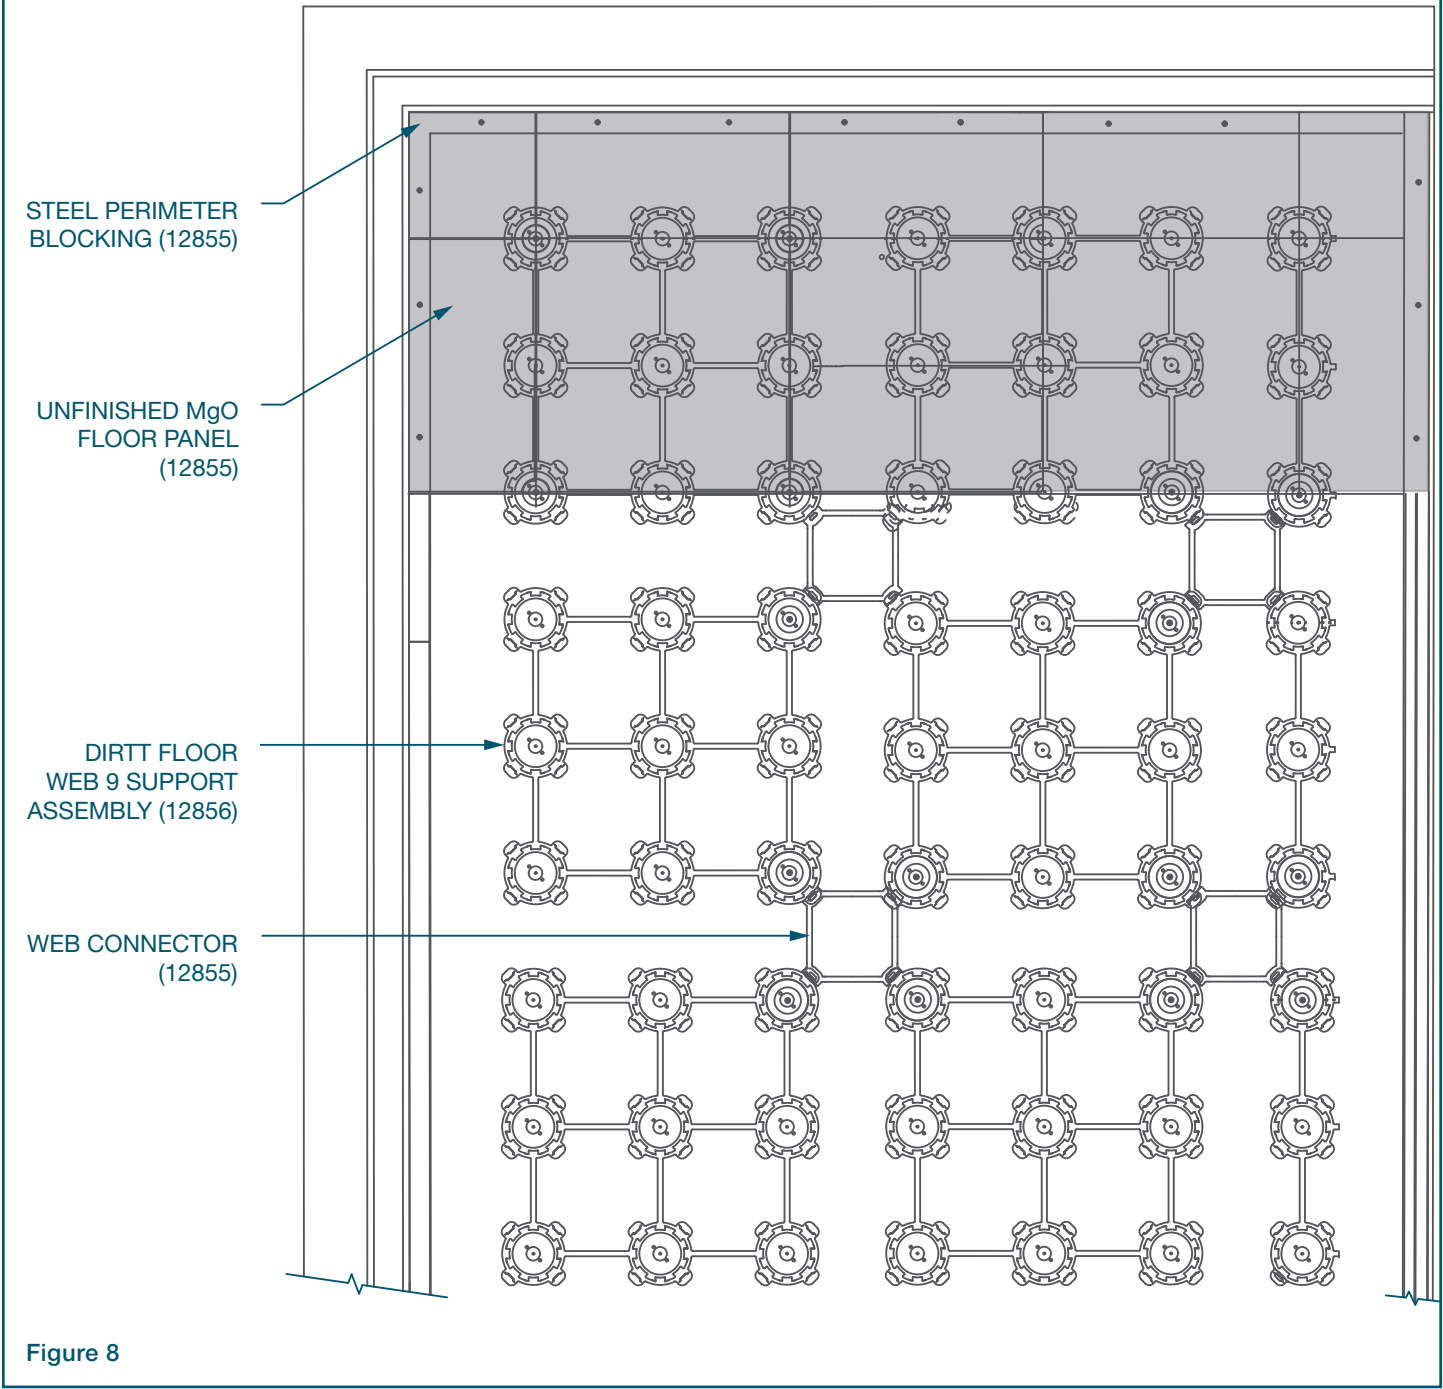

Figure 8
- 07** Attach Web Connector (12855) – QTY 4 to the four corners of each placed unit of webbing assembly. Snap them into place on the webbing to stabilize the grid of supports. Align the webbing with the chalk lines. Figure 8 shows a top view of the webbing snapped into place and stabilized with the grid aligned.